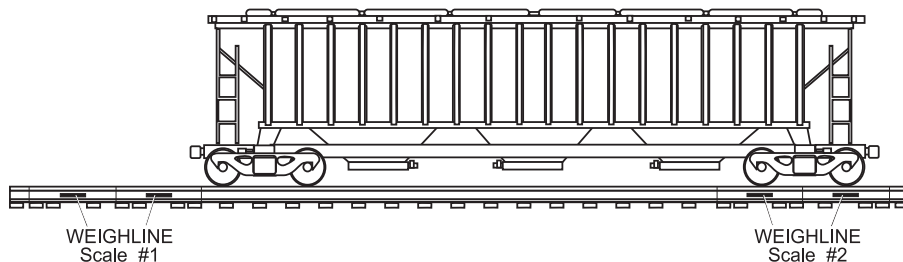

Figure 5
5. Move the car so that second truck is on the second scale and wheels are positioned in the center of the Weighline sections. See Figure 5. Total car weight is displayed.